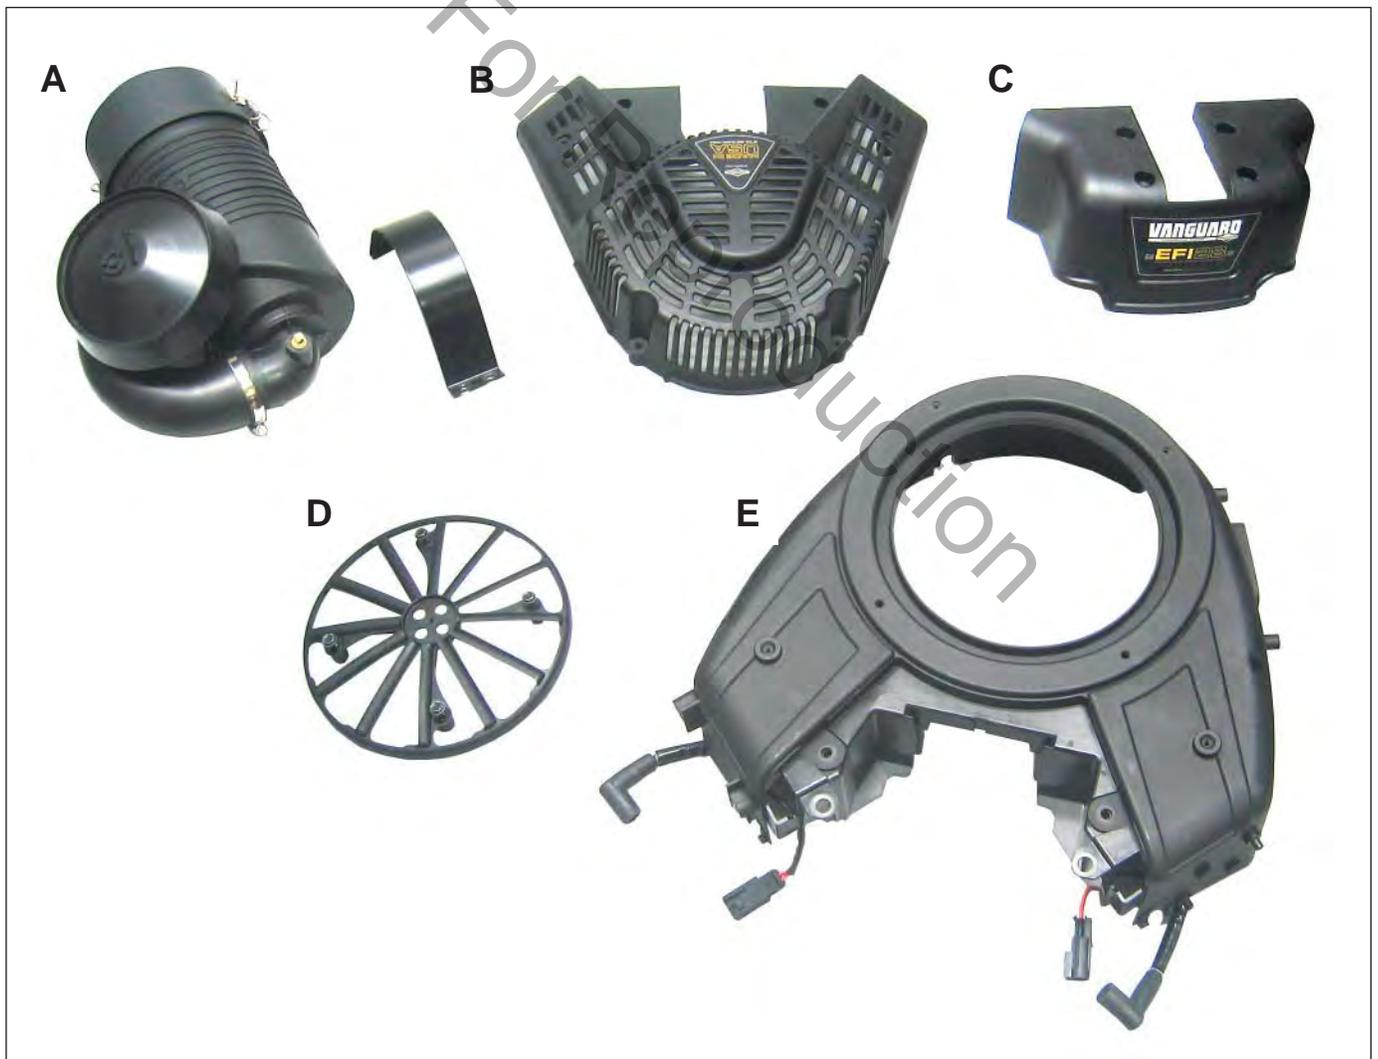

Figure 5-2 Remove Air Cleaner, Static Guard, Decorative Cover, Fan Guard, and Blower Housing
1. See Figure 5-2. Remove air cleaner (A) as follows:
2. Remove six hex flange screws to release static guard (B).
3. Remove four hex flange screws to release decorative cover (C) from upper air cleaner bracket.
4. Remove four hex flange screws to release fan guard (D) from blower housing.
5. Remove two hex flange screws to release blower housing (E) from upper air cleaner bracket.
14. Install four hex flange screws to fasten fan guard (D) to blower housing. Alternately tighten screws to 40-48 in-lbs (5 Nm) using a crosswise pattern.
15. Install four hex flange screws to fasten decorative cover (C) to upper air cleaner bracket. Alternately tighten screws to 50-70 in-lbs (6-8 Nm) using a crosswise pattern.
16. See Figure 5-2. Install six hex flange screws to fasten static guard (B) to blower housing. Alternately tighten screws to 25-35 in-lbs (3-4 Nm) using a crosswise pattern.
17. Install air cleaner (A) as follows: